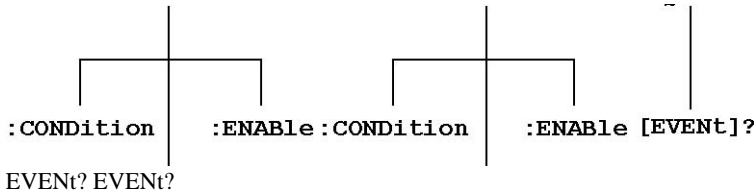
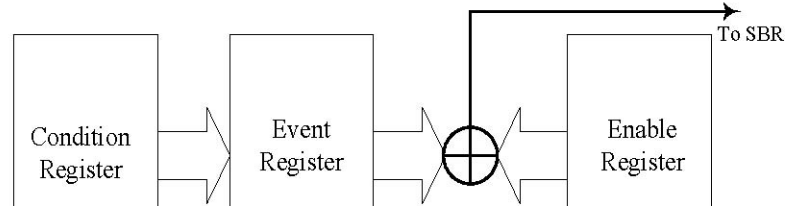

Figure 5-2: STATUS hierarchy of SCPI defined register
Figure 5-3: Status registers and related commands.
- ◆ QUEStionable Status Registers (CONDition, EVENT, and ENABLE) The STATus subsystem is the hierarchical set of commands (Figure 5-2) that read the SCPI defined status registers. The lower level nodes: QUEStionable and OPERation each have three 16 bits registers: CONDition, EVENT, and ENABLE. Figure 5-3 shows the sequential relationship between these three types of registers and the commands which relate to each register.